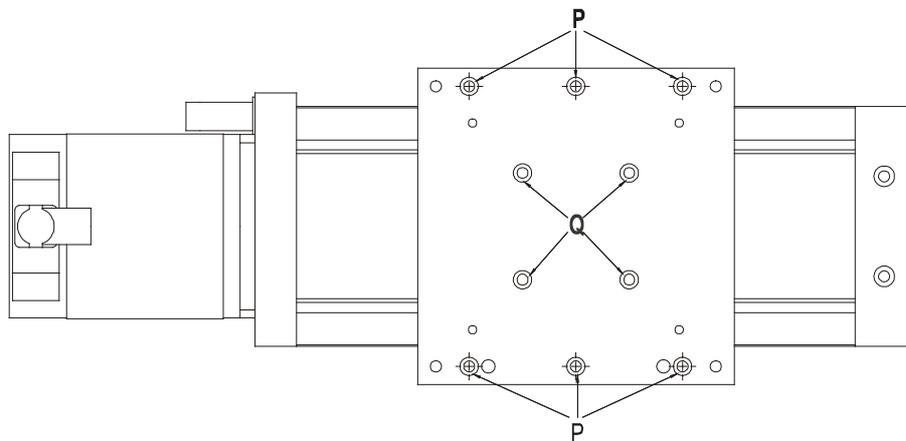

Figure 33: Top view linear unit
- Remove clamping blocks by loosening the attachment screws (**P**) (see *Figure 33, page 34*).
- Disconnect carriage from the tappet by loosening the attachment screws (**Q**) (see *Figure 33, page 34*).